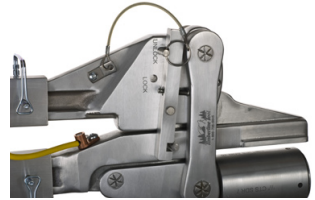

Fig 5
5. Disengage the **Safety Locking Bar** and place the **Quick Release Pin** in the hole through the Top Handle labeled UNLOCK. (*Fig 5*)